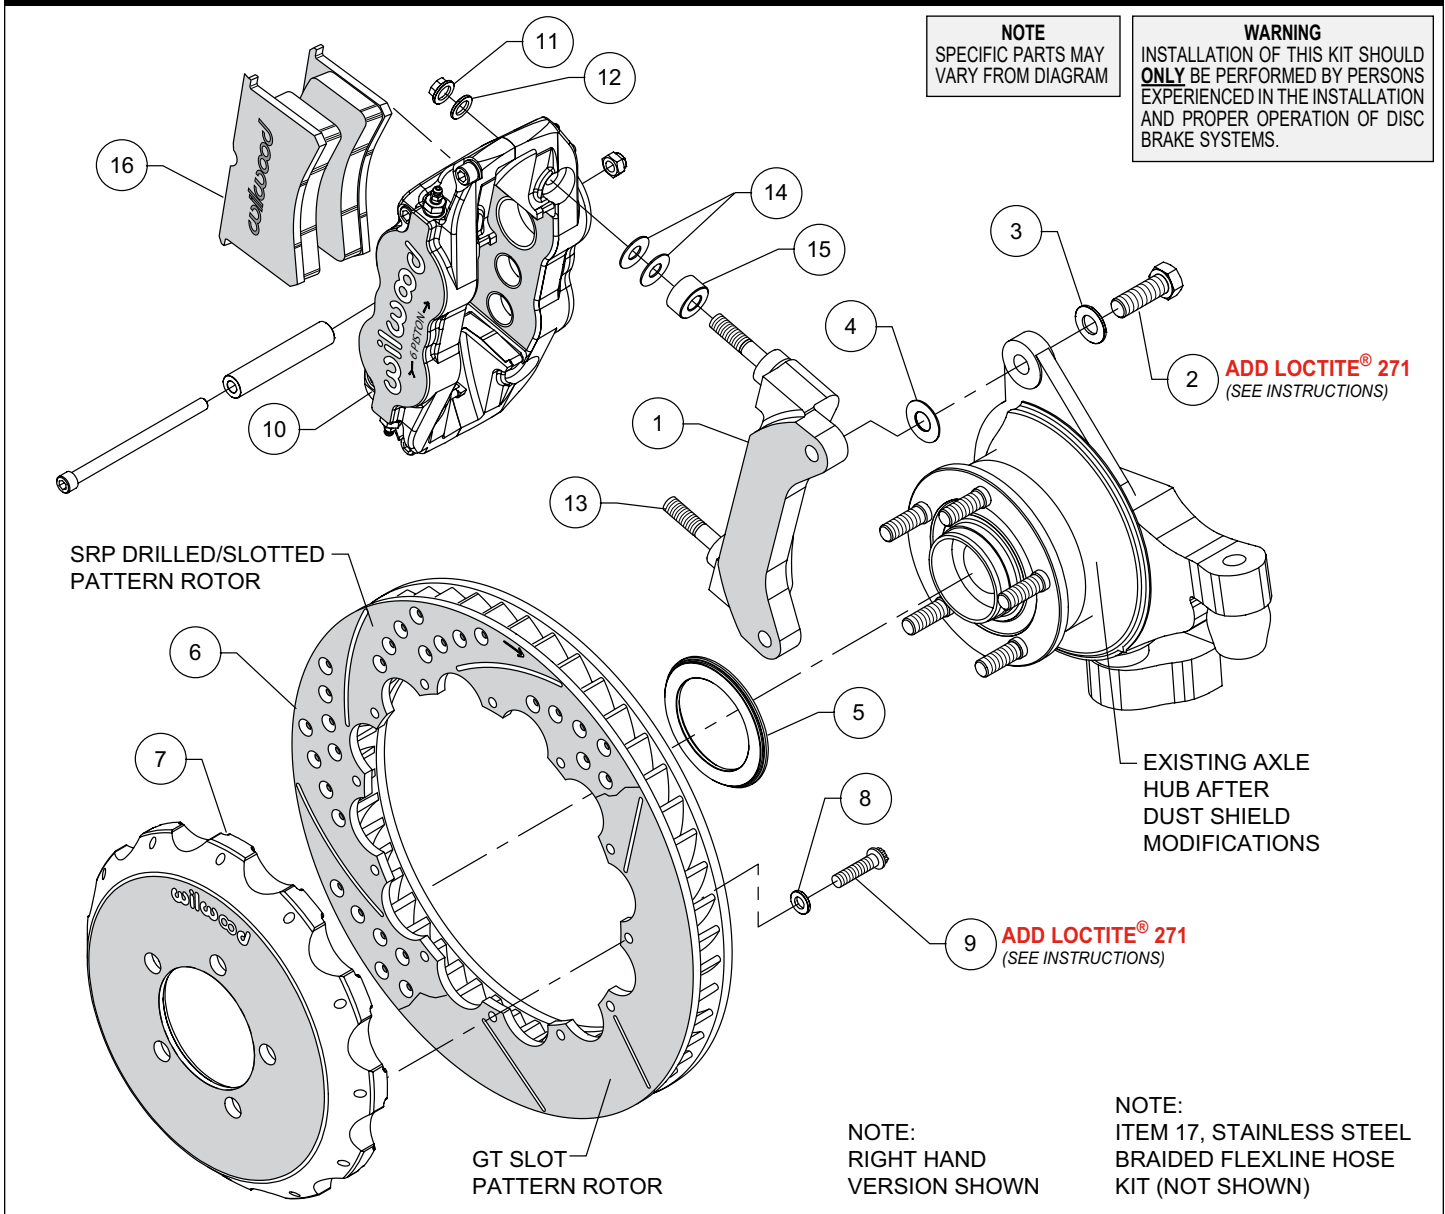
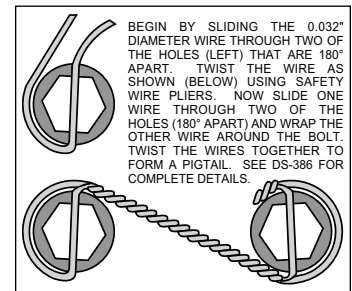

Figure 1. Typical Installation Configuration
Figure 4. Safety Wire Diagram
NOTE: Numbers in parenthesis refer to the parts list and Figure 1 on the preceding pages.
•The caliper mount bracket (1) should initially be installed with clean, dry threads on the mounting bolts. Orient the bracket as shown in Figure 1, and install using washers (3) and bolts (2). Initially place one shim (4) on each bolt between the bracket and upright, Figure 1. Temporarily tighten the mounting bolts. **NOTE:** The bracket must fit squarely against the mount bosses on the upright. Inspect for interference from casting irregularities, machining ridges, burrs, etc. Later, after the caliper alignment has been checked, the mount bolts will be secured using red *Loctite*® 271.
•Orient the rotor (6) and the hat (7) as shown in Figure 1 and Photo 1. Attach rotor to hat using bolts (9) and washers (8). Apply red *Loctite*® 271 to the bolt threads and torque to 155 in-lb using a criss-cross pattern. For an added measure of security, the bolts may be safety wired using standard 0.032 inch diameter stainless steel safety wire as shown in Figure 4. Please refer to Wilwood's data sheet DS-386 (available at www.wilwood.com/Pdf/DataSheets/ds386.pdf) for complete safety wire installation instructions.
•Slide the rotor registration adapter (5) onto the axle register on the axle hub with the smaller O.D. facing outward, Photo 2. Slide the hat/rotor assembly onto the axle hub. **NOTE:** The hat must fit flush against the axle hub flange or excessive rotor run out may result. Install three lug nuts (finger tight) to keep the hat/rotor assembly in place while continuing with the installation.
•**NOTE:** This kit contains distinct right and left hand calipers that must be mounted in a specific direction, as described below. Initially place two .035" thick shims (14) and spacer (15) on each stud (13) as shown in Figure 1 and Photo 3. Mount the caliper (10) onto the bracket (1) using lock nuts (11) and washers (12), Figure 1. Ensure that the caliper is mounted so that the largest pistons are at the rotor exit end of the caliper, in relation to the direction of rotor rotation. Temporarily tighten the lock nuts and view the rotor through the top opening of the caliper. The rotor should be centered in the caliper, Photo 4. If not, adjust by adding or subtracting shims (4) between the bracket and the upright. Always use the same amount of shims on each of the two mounting bolts. Once the caliper alignment is correct, remove the bracket mounting bolts (2) one at a time, apply red *Loctite*® 271 to the threads, and torque to 60 ft-lb.
•Remove the caliper center bridge pad retainer bolt, nut, and tube from the caliper. Insert the brake pads (16) into the caliper, with the friction material facing the rotor, as shown in Photo 5. Check that the top of the brake pad is flush with the outside diameter of the rotor, Photo 6. If not, adjust by adding or subtracting shims (14) between the caliper and the bracket. After the caliper pad height is set,